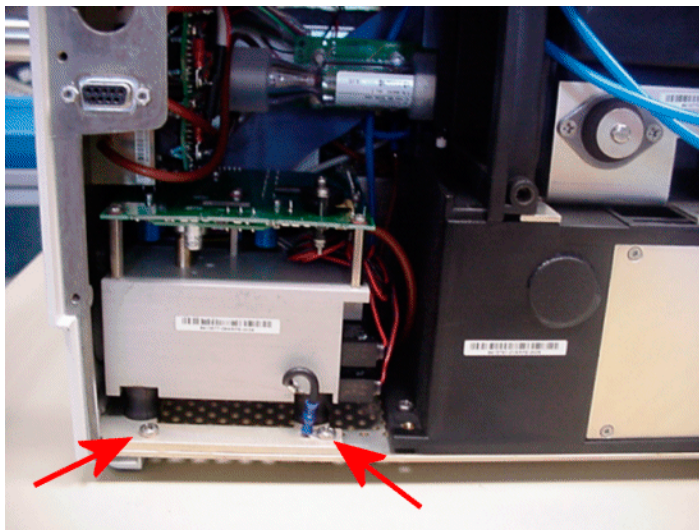

Figure 11 Valve block fixing screws
10. Remove the valve block fixing screws (Figure 11).